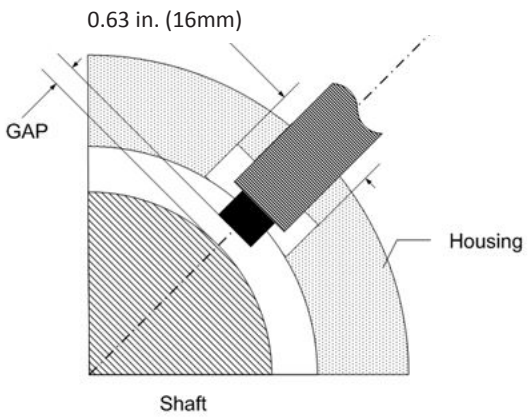
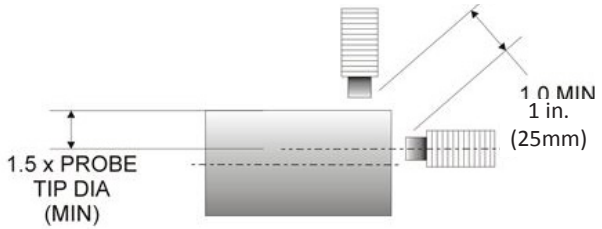

Figure 1
Figure 2
1. For RPM measurements, mount the probe with its axis radial to the shaft with its tip approximately .050" (1.25 mm) from the outermost surface of the shaft. The probe tip must be provided with sufficient clearance from surrounding metal to prevent an erroneous output. As a minimum, the clearance diameter should be .63" (16 mm) for the full length of the probe tip, as shown in Figure 1. For exact gapping procedure see the section concerning calibration. To prevent cross-feed between two probes mounted in the same vicinity, at least 1" (25 mm) spacing between the probe tips should be maintained, as shown in Figure 2 & 3.